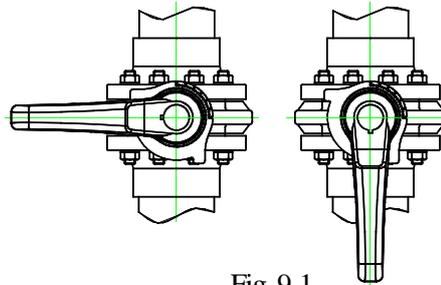

Fig. 9-1
- 2) In case of lever type (50-200 mm {2"-8"}), the direction of handle is same as the disc as shown in Fig. 9-1.